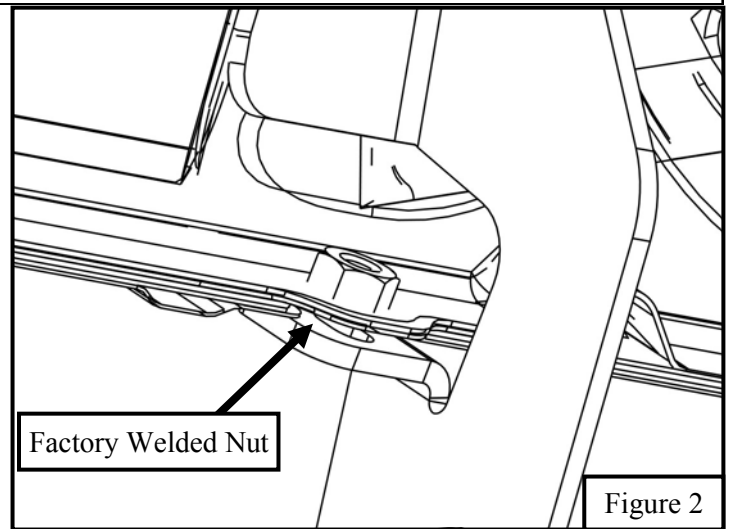

Figure 2
2. **For models with welded nuts:** At each bracket mounting location on the pinch weld there should either be a welded factory nut or a hole. If there is a factory welded nut present, then the M8 U-Nut Clip (Item 9) will not be used at that location. See **Fig. 2** for the factory welded nut.